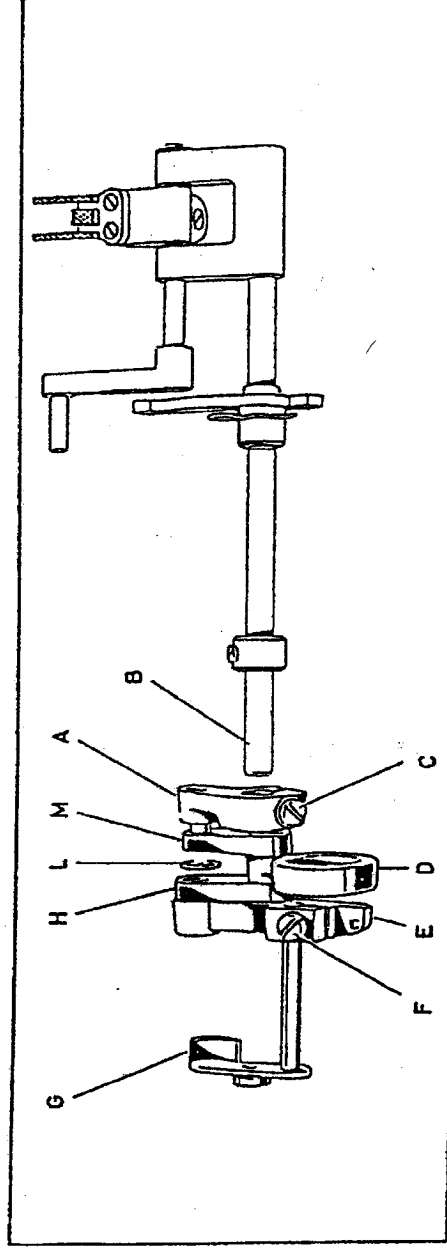

Fig. 23
Disassembly (fig. 23)
- loosen screws F and C (fig. 23);
- Insert stitch regulator connecting rod M into feed connecting rod D and junction A into shaft B (fig.23);
If, on the other hand, feed dog moves (fig.23), proceed as follows: